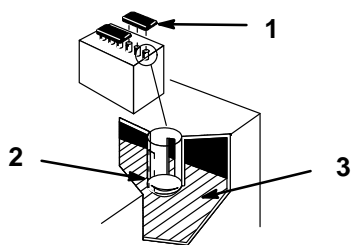

Figure 14
2. Open covers to see into the cells. Slowly pour electrolyte into each cell until the level is up to the lower part of the tube (Fig. 14).
5. Slowly pour electrolyte into each cell until the level is once again up to the "UPPER" line on the battery case (Fig. 14).